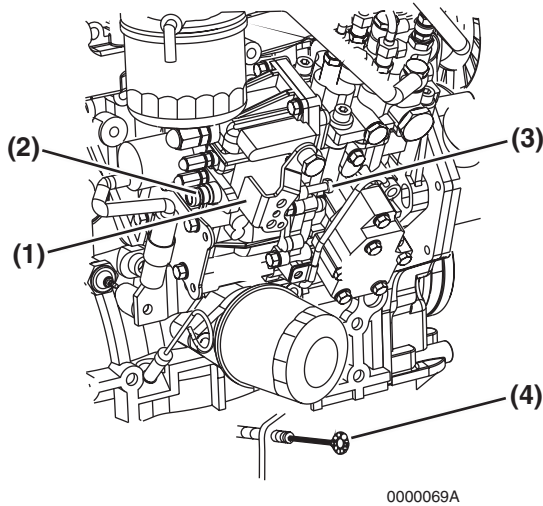

Figure 5-11
1. Check that the governor lever (**Figure 5-11, (1)**) makes uniform contact with the high idle (**Figure 5-11, (2)**) and low idle (**Figure 5-11, (3)**) speed limit screws when the engine speed control is in the high idle speed or low idle speed position.
3. In some engine speed control applications, loosen the throttle cable lock nut (**Figure 5-11, (4)**) and adjust the cable so the governor lever makes proper contact with the high / low idle speed limit screw.